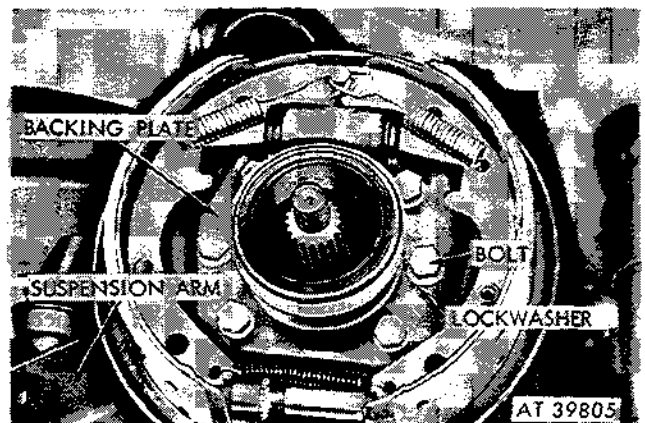

Figure 2-347. Remove brake assembly and spindle support.
- (8) Remove six bolts and lockwashers securing the brake assembly and spindle support to the suspension arm (fig. 2-347).